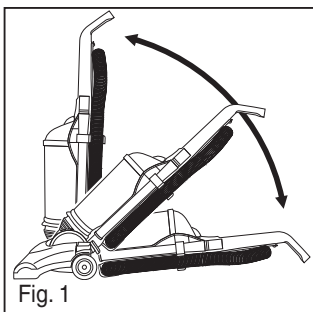
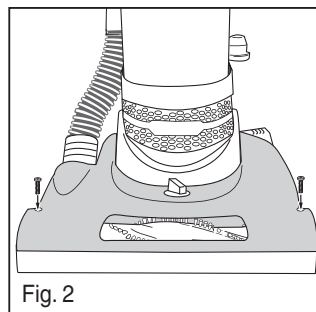
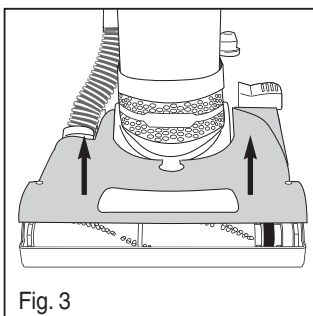

Fig. 1
Fig. 2
Fig. 3
- 3) Lift and remove brush roll cover (Fig. 3).
- 7) Replace brush roll cover and 2 screws (Fig. 2).
- 1) Refer to Fig. 1, Fig. 2 and Fig. 3.
- 3) Replace brush roll and 2 screws (Fig. 2).